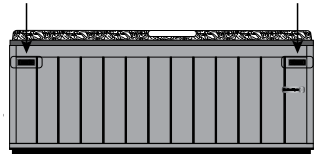

Figure 11.9a
- Locate the EZ Access Door locking latches, on the top corners of the front panel, Figure 11.9a.